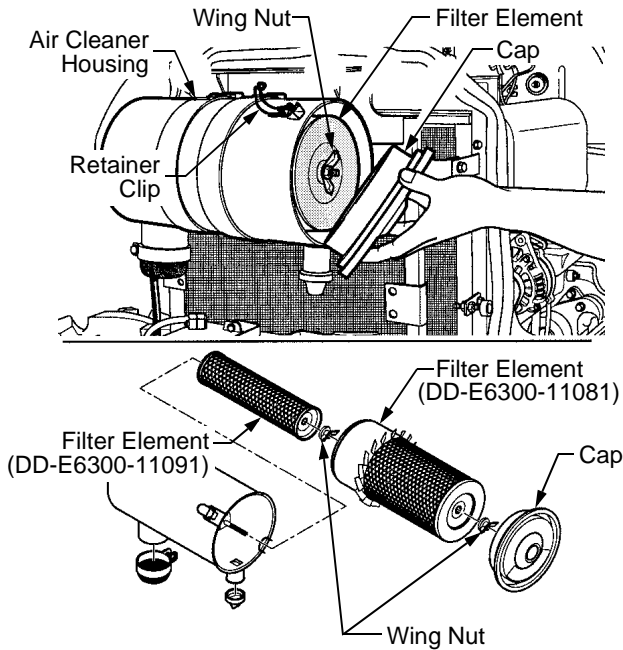

Figure 63
- Unclip the two retainers to remove the cup and wipe out any build-up of dust. See Figure 63.
- Remove the wingnut and carefully withdraw the filter element from the housing. See Figure 63.